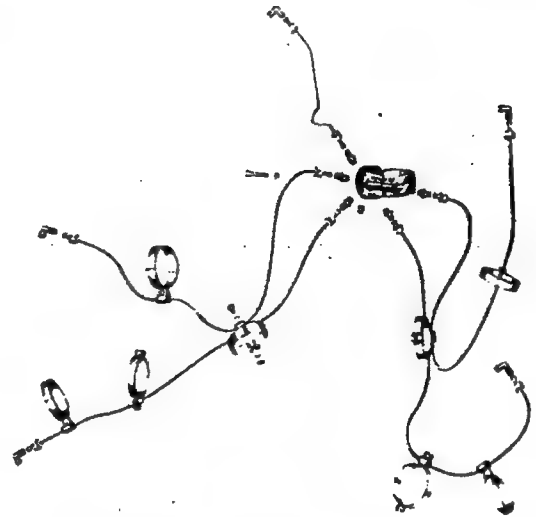

Figure 30—Five-Point Priming
(1) Place the air deflector in its approximate position between the cylinders.
(2) Place the air deflector clamp so that the edges of the channel-shaped clamp fit into the fifth and eleventh fin space, counting the space between the first and second fin at the crankcase end of the cylinder as No. 1. Loosely install the through bolt through the deflector, spacer, and clamp. Install a new elastic stop nut but do not tighten at this time. Line up the deflector so that the stud protrudes through the space between the two rocker box cover extensions. Install the grommet and retaining plate, secure with a new elastic stop nut. Tighten the air deflector clamp at the base of the air deflector.
(3) To install the air deflector at the sump location, place the deflector in its approximate position. Loosely install the two cap screws and washers securing the deflector to the two arms of the sump. Line up the stud with the space between the two rocker box cover extensions, install the rubber grommet and retaining plate, and secure the assembly with a new elastic stop nut. Tighten the cap screws in the sump arms and lockwire securely.
a. REMOVAL OF FIVE-POINT PRIMING SYSTEM.—Detach the supply line from the distributor. Unscrew the priming tube union nuts from the fitting on the intake ports of the five upper cylinders and at the distributor nipples. See figure 30. If the same tubes are to be installed, tag, or otherwise mark, each